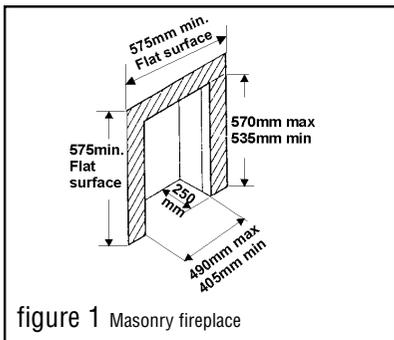

figure 1 Masonry fireplace
- 2.10.1 A masonry chimney with a minimum diameter of 175mm free from obstruction. Note the flat surface area requirement (Figure 1). A masonry chimney having a correctly installed flue liner to BS715 and with a minimum flue diameter of 125mm is also acceptable. Chair brick removal may not be required providing at least 50mm clearance is available from the flue outlet to any fireplace component. This appliance is designed to cater for low lintel installations (minimum height 505mm) provided that a minimum distance of 45mm is maintained between the lintel and the front face of the fireplace - i.e the fire surround has a minimum rebate of 45mm.